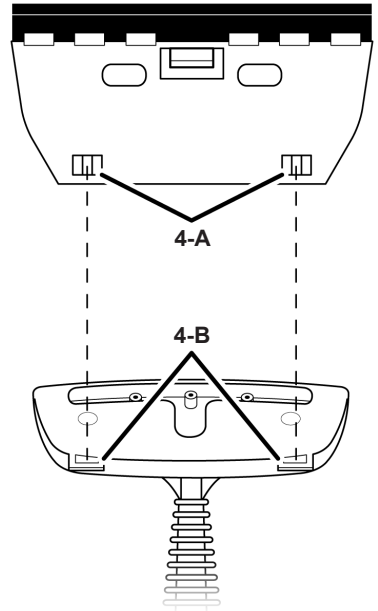

FIGURE 4
1. Connect Squeegee to Wide Nozzle by inserting hook tabs on Squeegee (FIGURE 4-B) into slots on Wide Nozzle (FIGURE 4-A).